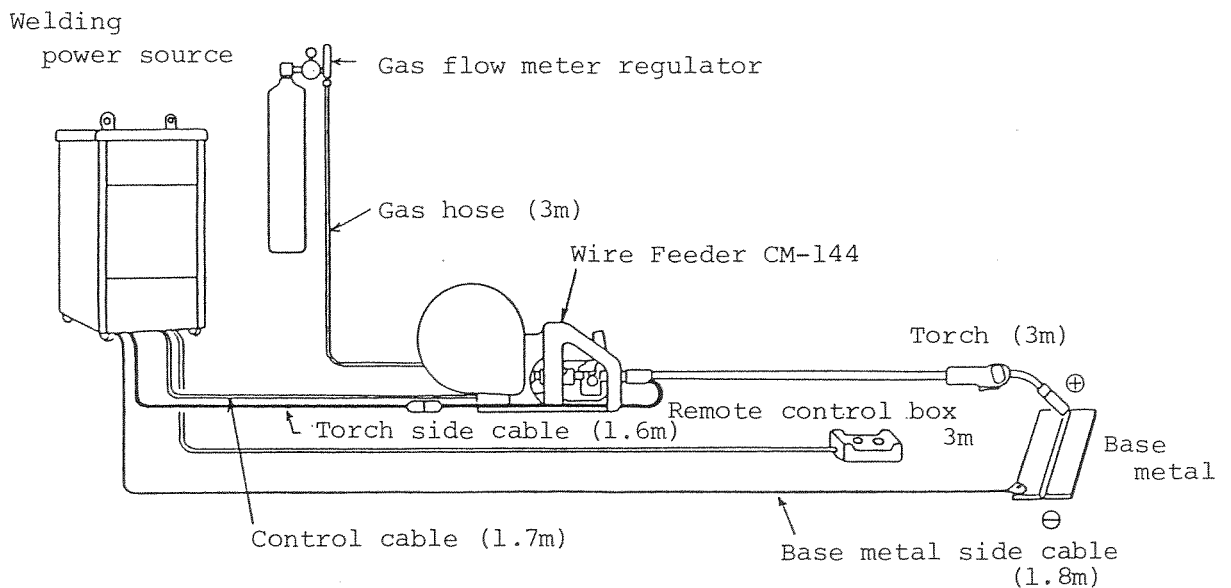

Fig 4 Secondary side connection
- Open terminal cover (Fig. 3) and be sure to connect. (See Fig. 4)